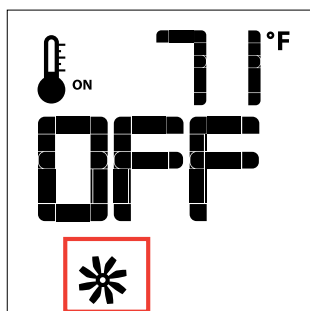
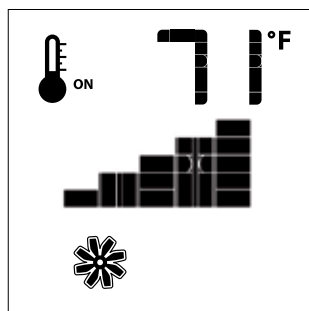

Figure 13
Figure 14
If the appliance is equipped with a hot air circulating fan, the speed of the fan can be controlled by the Proflame system. The fan speed can be adjusted through six (6) speeds. To activate this function use the Mode Key (fig.1) to index to the fan control icon (Fig. 13). Use the Up/Down Arrow Keys (fig.1) to turn on, off or adjust the fan speed (fig. 14). A single "beep" will confirm reception of the command.